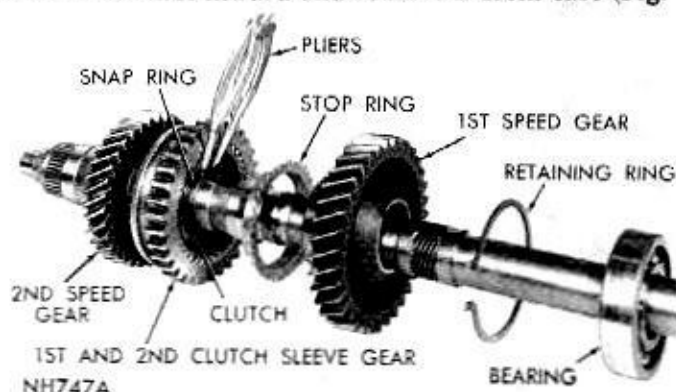
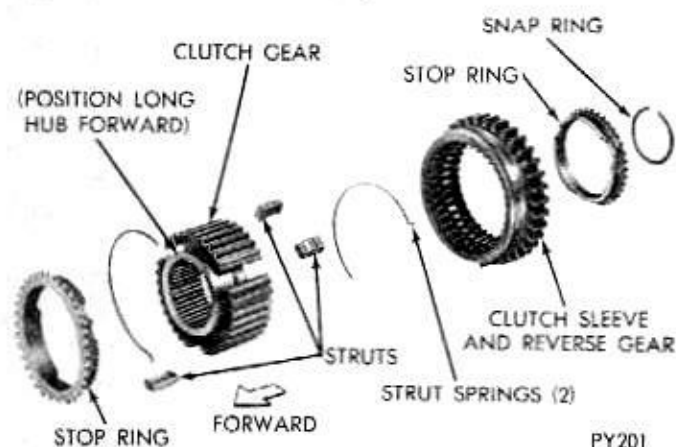

Fig. 24—Removing or Installing Clutch Gear Snap Ring
Fig. 37—1st-2nd Synchronizer—Disassembled
(10) Remove bearing, bearing retainer ring, 1st speed gear, and first speed stop ring from the shaft.
(11) Remove snap ring that retains 1st and 2nd clutch sleeve gear and clutch to mainshaft (Fig. 24). Slide 1st and 2nd clutch sleeve gear and clutch from mainshaft. (Do not separate clutch sleeve gear and clutch, unless inspection reveals a replacement part is required.) Remove 2nd speed gear.
order shown in (Figs. 37 and 38) as follows: Place a stop ring flat on the bench followed by the clutch gear and sleeve. Drop the struts in their slots and snap in a strut spring placing the tang inside one strut. Turn the assembly over on the stop ring and install second strut spring tang in a different strut.
(2) Slide second speed gear over mainshaft (synchronizer cone toward rear) and down against shoulder on shaft (Fig. 24).
(3) Slide first and second synchronizer assembly (including stop ring with lugs indexed in hub slots, Fig. 37) over mainshaft, down against second gear cone and secure with a new snap ring (Fig. 24). Slide next stop ring over shaft and index lugs into clutch hub slots.
(4) Slide first speed gear (synchronizer cone toward clutch sleeve gear just installed) over mainshaft into position against clutch sleeve gear.